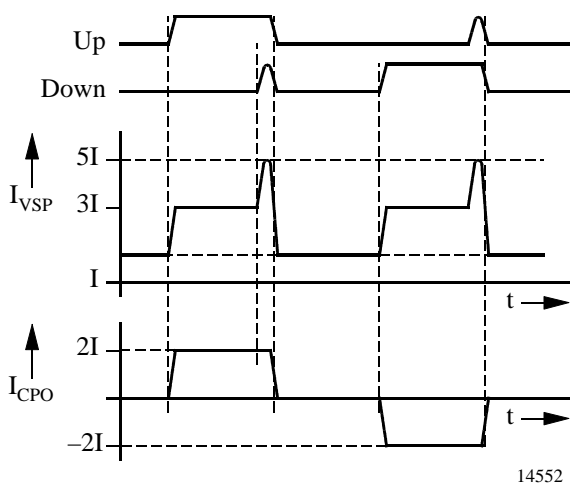

Figure 3. Supply current of the charge pump = $f(t)$
1) Mean value measured with $F_{ND} = 151$ MHz, $F_{RD} = 150$ MHz, current vs. time, see page 6, figure 3.
Due to the pulsed operation of the charge pump, the current into the charge-pump supply pin VSP is not constant. Depending on I (see figure 6) and the phase difference at the phase detector inputs, the current I_{VSP} over time varies. Basically, the total current is the sum of the quiescent current, the charge-/discharge current, and – after each phase comparison cycle – a current spike (see figure 3).